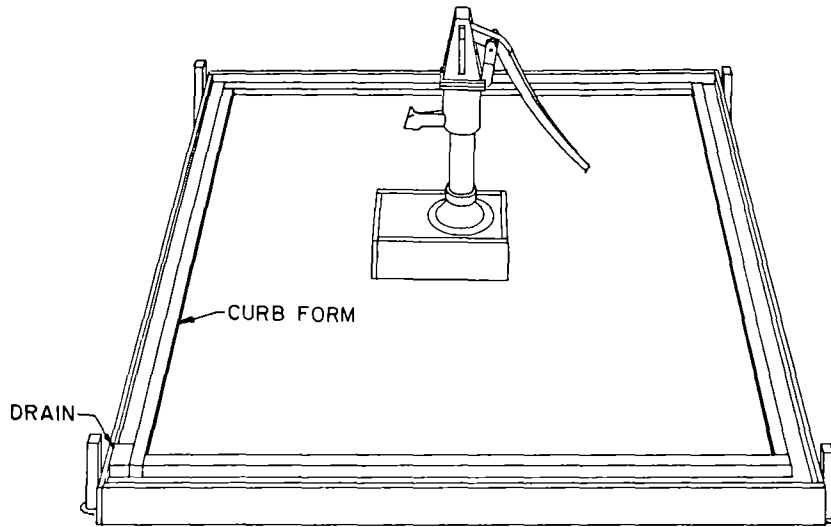

Figure 15. Constructing The Apron Curb
Leaving space for the drain, construct a five (5) cm high by ten (10) cm wide water curb around the perimeter of the apron. Use the curb form (Handout 5-8, p. 13) as shown in Figure 15. After removing the apron and curb forms, plaster the curb with a 1:3 cement/fine sand rendering.